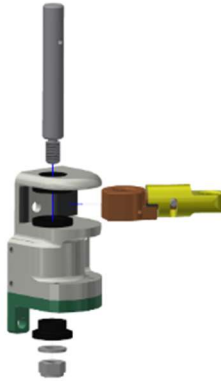

Figure 7-13. Install the Spring Tension Pin (474-3519)
- 7.3.3 Install the Spring Tension Pin (474-3519) using the M8 X 1.25 Hex Lock Nut, M8 Flat Washer, and Shaft Sleeve (Figure 7-13).